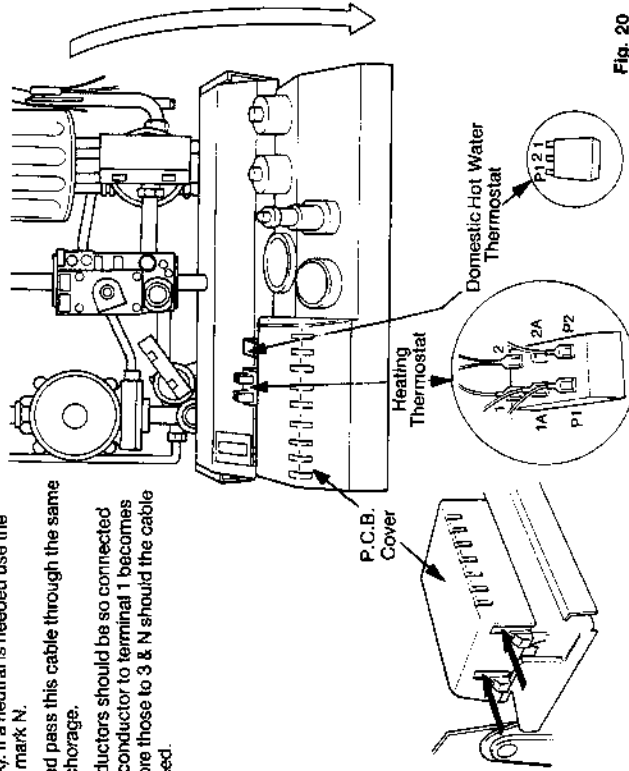

Fig. 20
Press in the sides of the printed circuit board cover (fig. 20) to release retaining clips, and lift cover off.
6.7.6 If the boiler temperature is above 60°C turn the dhw thermostat down until the low flame is established. If low flame cannot be established in this way, turn off the electricity supply and transfer the cable on terminal 2 of the dhw thermostat to terminal 1 (Fig. 20 shows location). Switch on electricity.